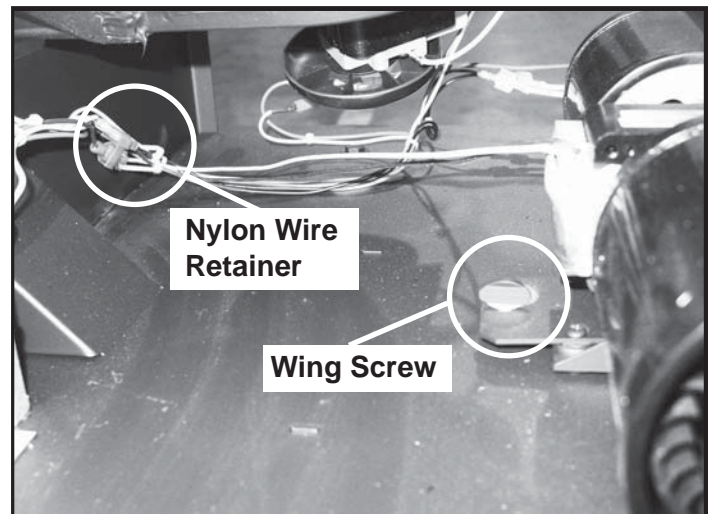

Figure 18.3
7. Remove the wing bolt and move the blower and hold-down bracket toward the back of the appliance to release the locating tab. **Figure 18.3.** Pull the blower out from under the convection plenum. Slide the blower out of the appliance. Disconnect the wires from the spade connectors at this time. **Figure 18.4.**